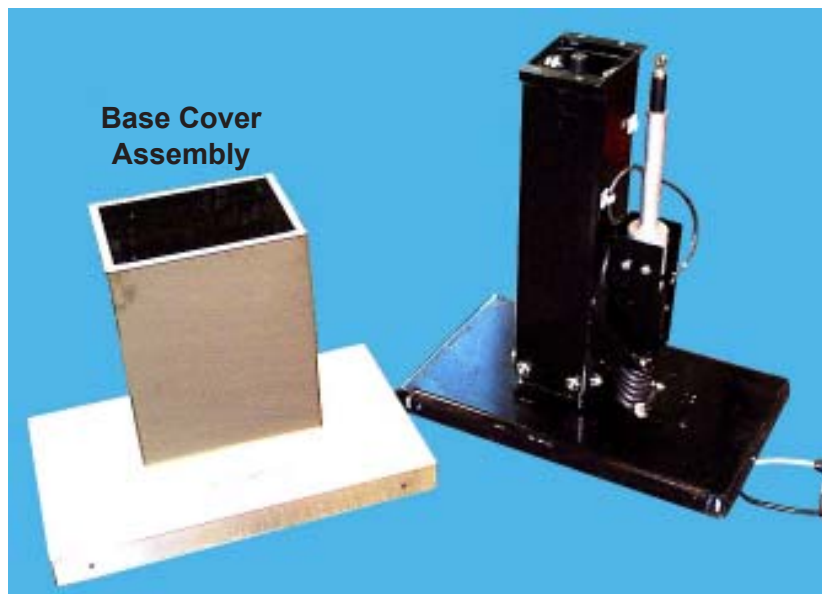

Figure 36. Base Cover Assembly Removed from Base
20. Lift the base cover assembly up and off the base (Figure 36).
7. Drop the base cover assembly in place on the base (Figure 36).